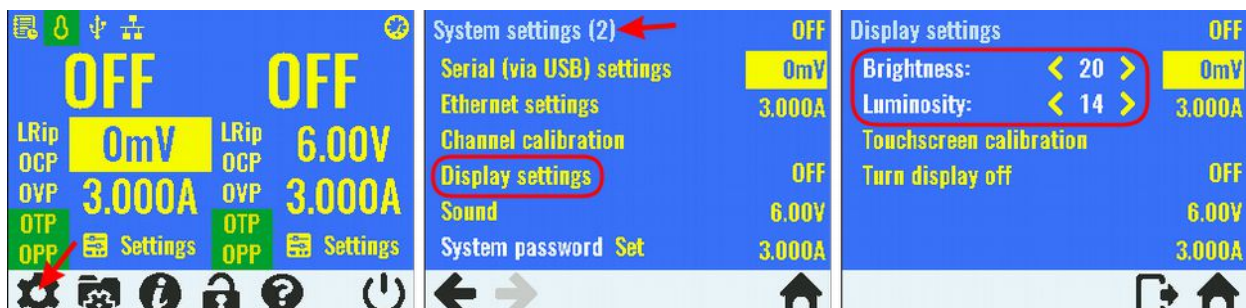

Fig. 35: Display settings page (firmware v1.0)
- Display colors are “washed out” – it appears that for used “noname” display backlight and colors intensity could vary considerably. While testing we found about half of dozen different level of backlight intensity. We tried to rectify that to some extend by offering display brightness and background color (i.e. the blue one) luminosity settings. You can find that parameters under system settings page 2 as shown on Fig. 35. We tried to set the most appropriate luminosity level for your display. The default value is 15 but if your found here e.g. 10 (for firmware v1.0) that means that your display is unfortunately is too bright (hence lower value). In that case the real “cure” is to start hunting for better unit on eBay or similar online shops.